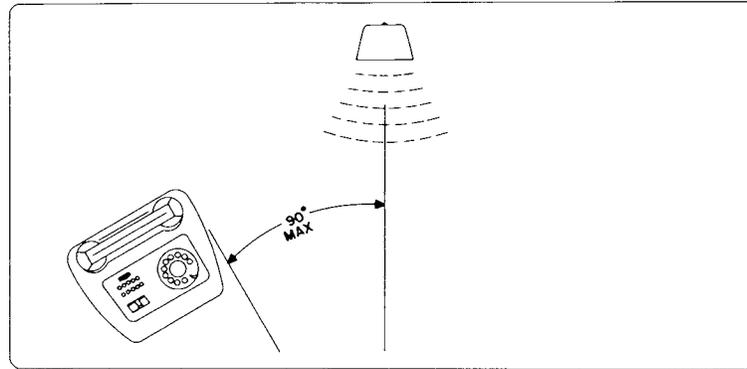

Figure 2. Suggested Arrangement for the Type 880 Speakerphone.
4.01 Place the main unit assembly with attached speaker assembly in the desired location. Figure 2 shows a suggested arrangement of the Type 880 Speakerphone for best results. To minimize feedback, the main unit assembly must always be a sufficient distance from the loudspeaker. The microphone (in the main unit assembly) should never face toward the loudspeaker. The angle between the side of the Speakerphone and the nearest sound path from the loudspeaker should not exceed 90 degrees (Figure 2).